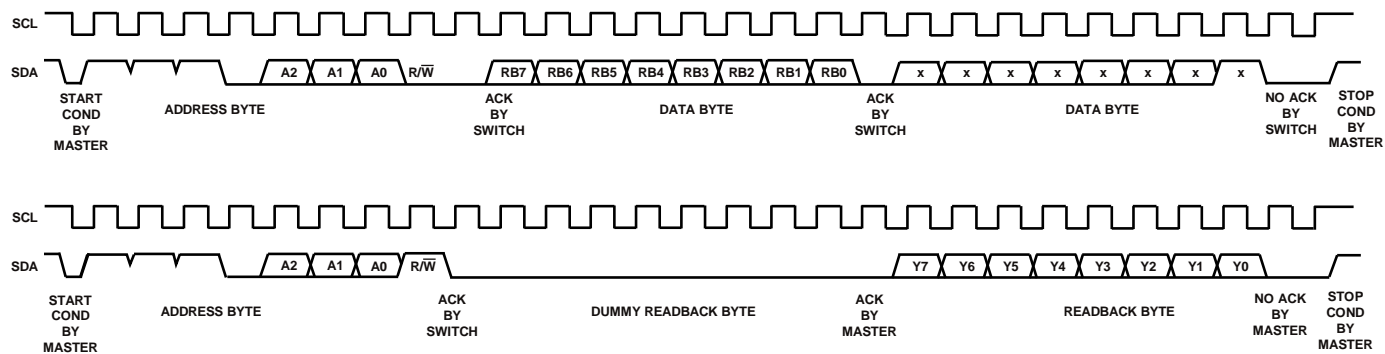

Figure 35. Read Operation
- b. Enter the readback address for the X line of interest, the addresses of which are shown in Table 8. Note that the ADG2128 is expecting a 2-byte write; therefore, be sure to enter another byte of don't cares. (see Figure 35).
The entire read sequence is shown in Figure 35.